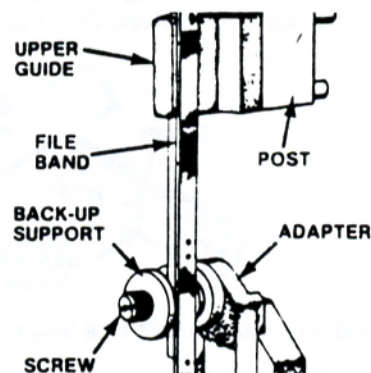

FIG. 46. FILE GUIDE INSTALLATION.
- (1) Remove saw band, saw guides, table center plate and post band guard. Then: (a) Mount file guide back-up support to lower keeper block; (b) Install upper guide to post. See Fig. 46.